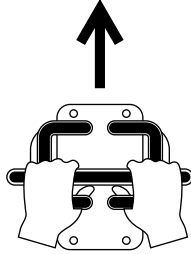

Figure 7
- To move forward, move both traction controls forward (Figure 7).